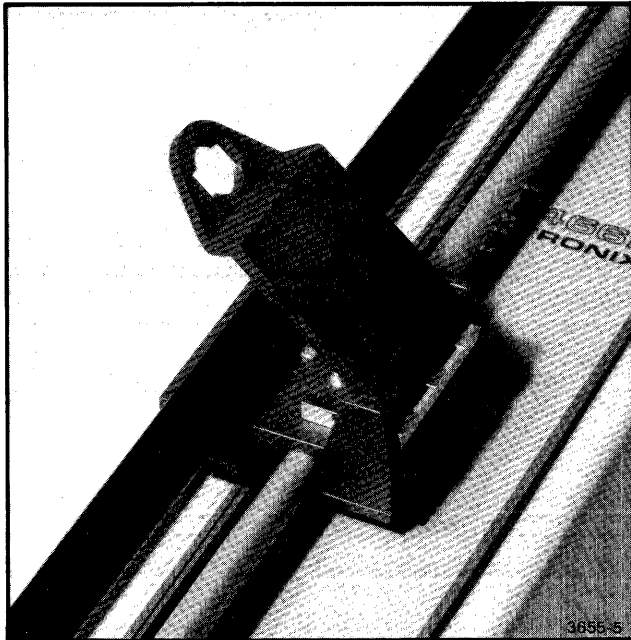

Figure E-4. The 4662 Pen Holder at the 45-Degree Detent Position.
1. Lift the pen holder manually to the 45-degree detent position (see Figure E-4).